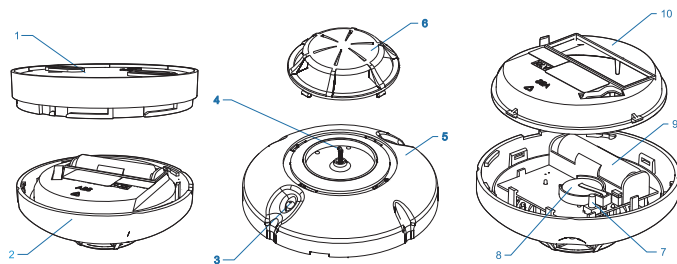

Fig.1
The fire detector consists of a printed circuit board and a thermo sensitive element (pos.4, fig.1), mounted into a plastic box (pos.5, fig.1). The fire detector is also equipped with a micro key(pos.7, fig.1), providing control over the removal of the detector from the base, main battery holder (pos.9, fig.1) and back-up battery holder(pos.8, fig.1). The two LED indicators (pos.3, fig.1), one of them two-color (red and green), and the other – one-color (red), allow 360° visibility and provide information about the operating modes of the detector:
Fire detectors of series VIT are to be used with base type FD100 (pos.2, fig.1).
2. Set the fire detector into "Duty" Mode, and its zone into "Test" Mode and from 20cm distance influence on the detector by means of a heat tester for testing the thermal part. For a period of time, not more than 20s after the influence, the detector should enter "Fire Condition" and LEDs on detector's body (pos.3, fig.1) will illuminate. The current temperature, the radio signal quality and the status of the detector can be monitored from the menu of the Fire Control Panel.
3. The panel automatically sends command for resetting after 1min. After receiving the command the detector enters "Duty" Mode. LEDs on the detector's body (pos.3, fig.1) must turn OFF.